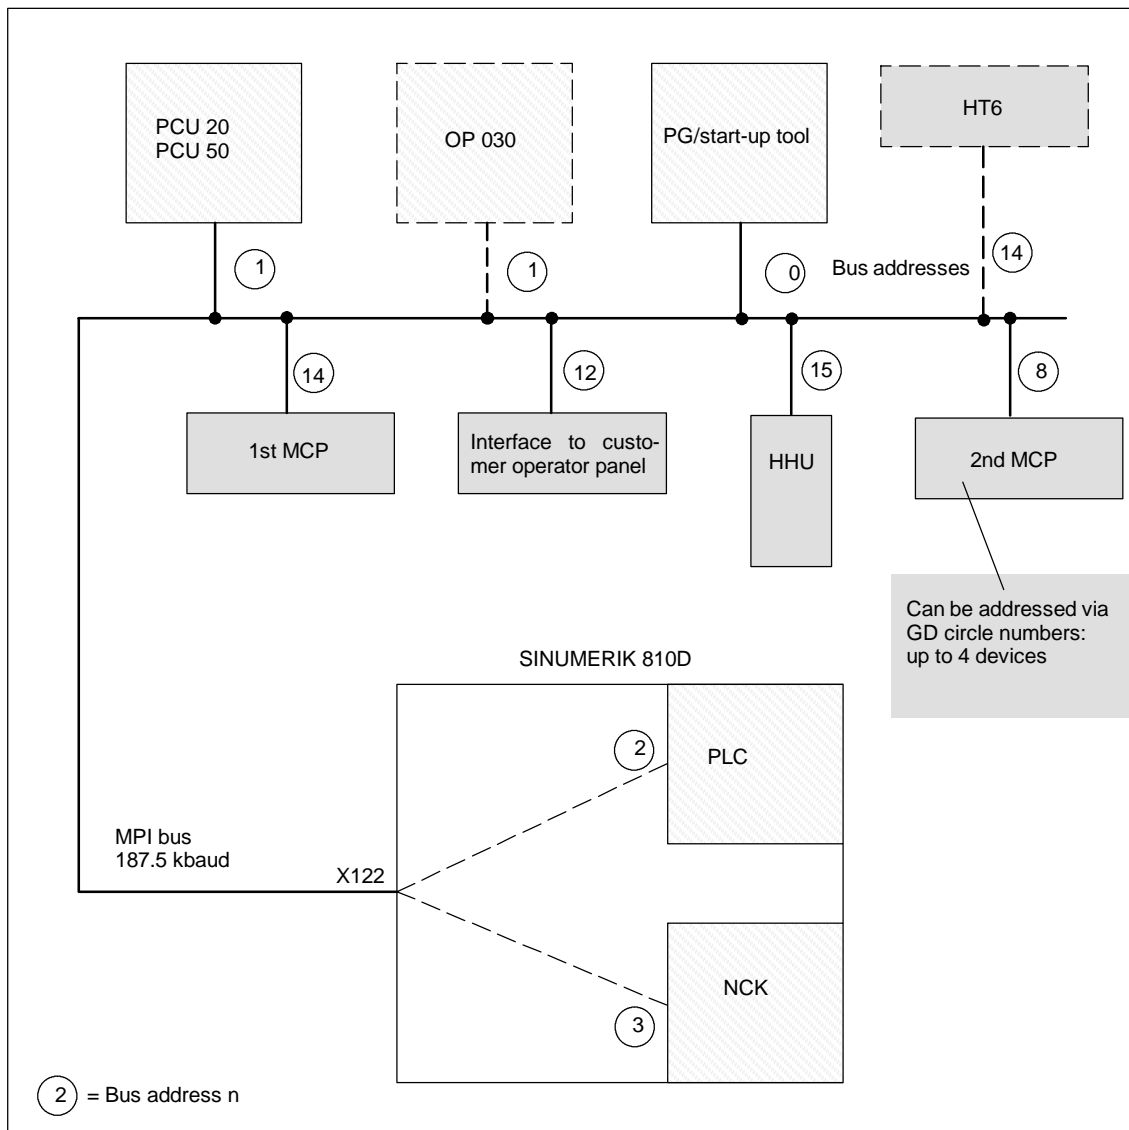

Figure 3-4 Example: MPI bus nodes with standard bus addresses
2. Enter data area for sending and receiving from Fig. 3-4